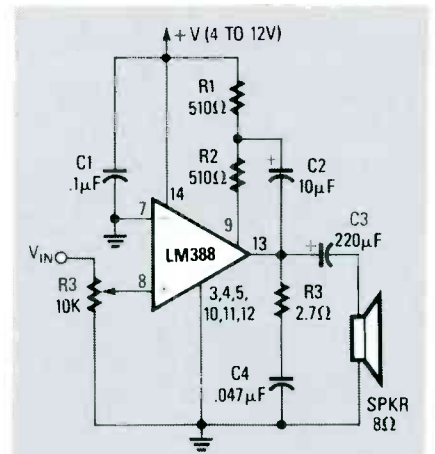
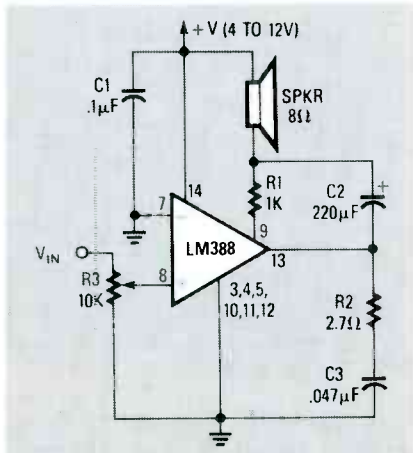

FIG. 17—LM388 WITH A GAIN OF 20 and load returned to ground.
FIG. 18—LM388 WITH A GAIN OF 20 and load returned to +V supply.
Figure 17 shows one way of using the LM388. Here, R1 and R2 are wired in series between the positive supply line and pin 9, to provide collector current to the internal Q7. Note that the R1-R2 junction is bootstrapped from the output of the IC via C2, to raise the AC impedance of R2 (and thus the voltage gain of Q7) to a value far greater than its DC value. The overall voltage gain of the LM388 is determined in the same way as in the LM386, and equals 20 in Fig. 17. Pins 2 and 6 were not used in Fig. 17, but if you wire a 10-µF electrolytic between those two pins (with the positive end connected to pin 6), the gain can be increased to 200.
Figure 18 shows an alternative way of using the LM388 where direct current (DC) is fed to pin 9 via the speaker and R1. Note, however, that the "low" end of the speaker is AC-driven by the output of the amplifier, thereby bootstrapping R1 and providing R1 with a high AC impedance. The circuit therefore gives a performance that is somewhat similar to that of Fig. 17, but does so with a saving of two components.